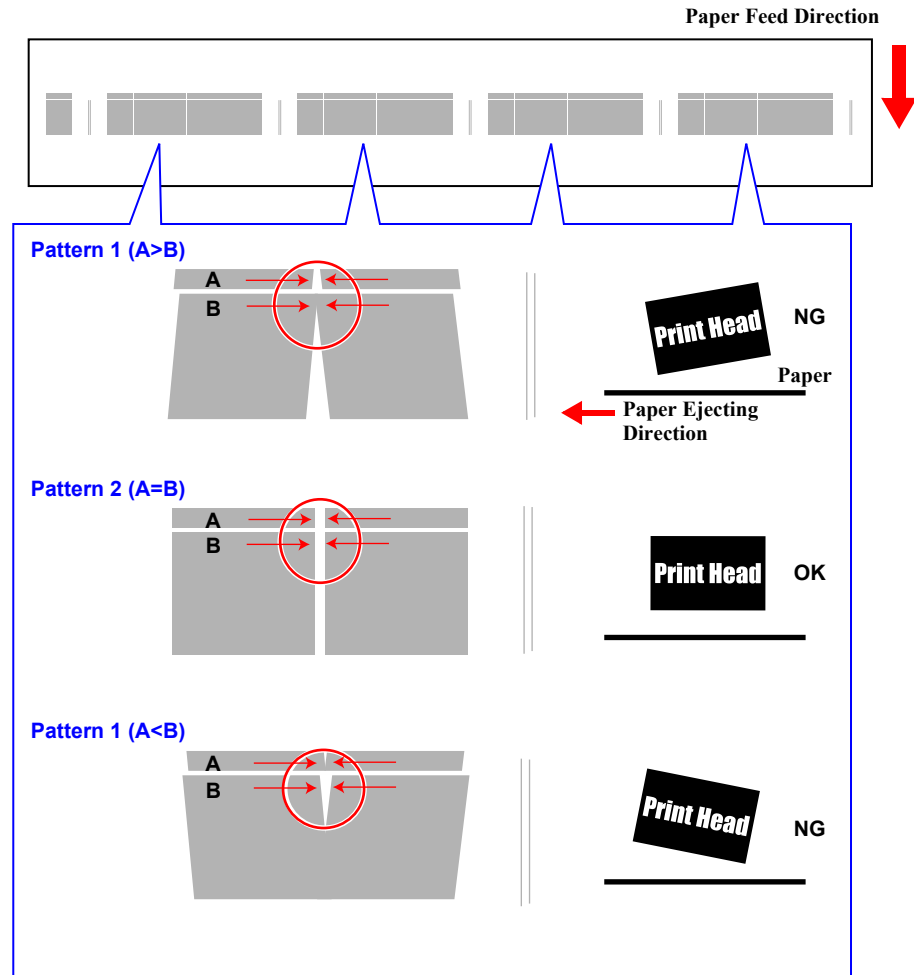

Figure 5-34. Adjustment Pattern
- A>B (Pattern 1) shown in Figure 5-34:
- A<B (Pattern 3) shown in Figure 5-34: